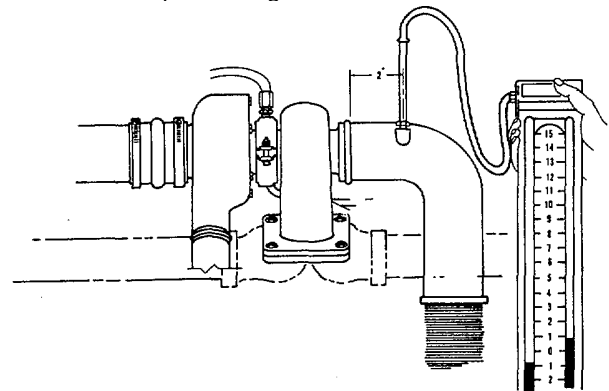

Fig. 105, TA3. Checking exhaust back pressure
1. Point of measurement must be as close as possible to turbocharger outlet flange in an area of uniform flow such as a straight section of pipe at least one pipe diameter from any changes in flow area or flow direction. Where it is impossible to locate point of measurement in a straight section, it is permissible to measure on side of a bend where flow is uniform and equivalent to flow along centerline. Do not measure on inside or outside radius of bend as flow is not uniform at these points. Fig. 105.